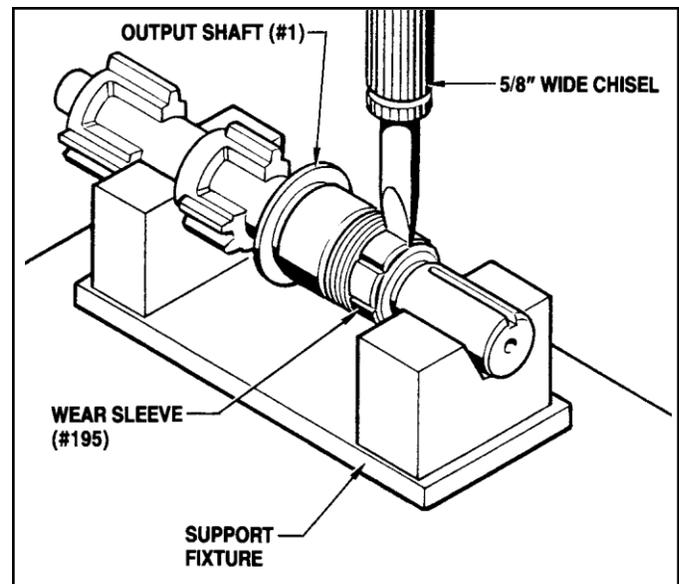

Figure 7.09 - Removing Wear Sleeve From Output shaft
4. If the Wear Sleeve (#195) needs to be replaced use the following procedure to remove it. (See Figure 7.09)